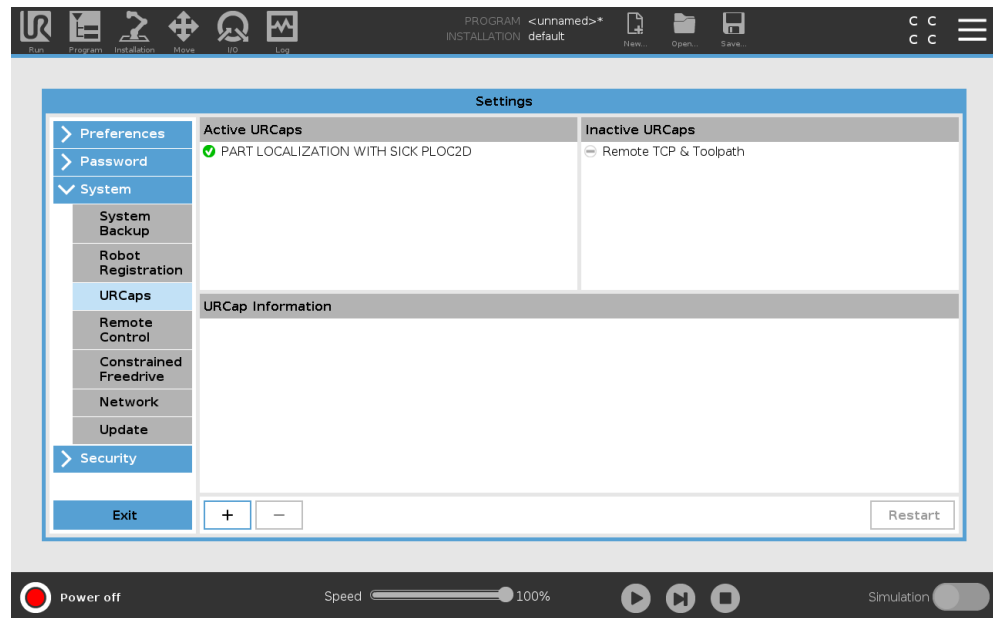

Figure 3: UR Robot user interface, URCaps upload
1. Select the **System/URCaps** tab, see figure 3, page 7.